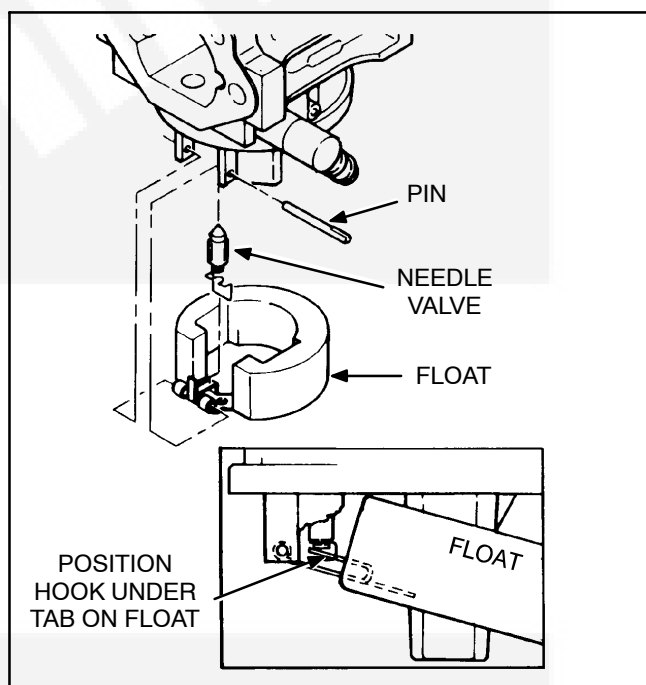

FIGURE 8-21. FLOAT INSTALLATION (PRIOR TO SPEC E, MODEL KV ONLY)
3. Install needle valve and seat, fuel bowl gasket and float assembly. Make sure all clips and springs are properly placed and the float moves freely without binding (see Figure 8-21).